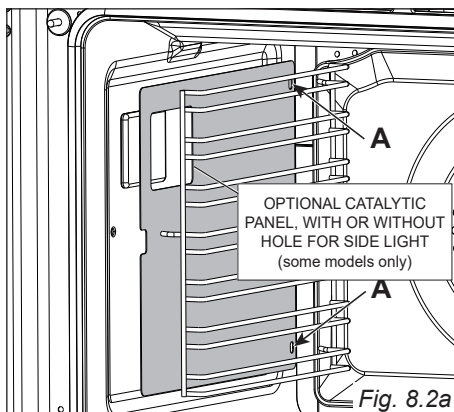

Fig. 8.2a
- Slide the rear prongs of the side rack into the holes “A” at the rear of the oven (fig. 8.2a).